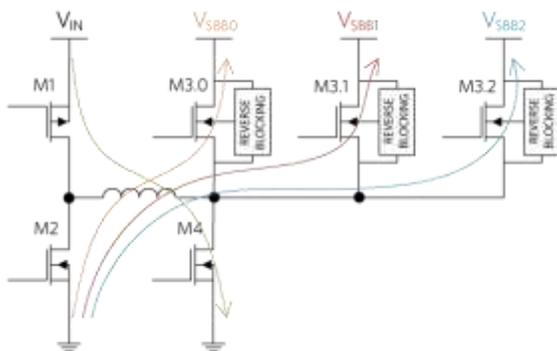
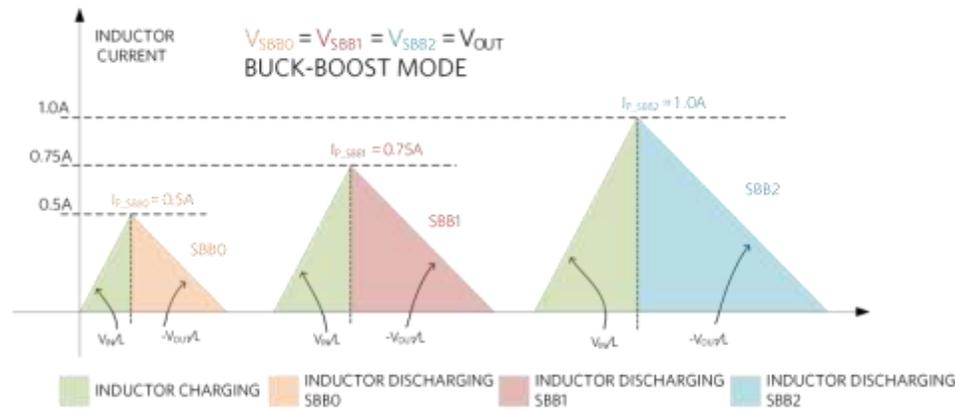

Figure 3. Typical power flow diagram of hearable devices.
Figure 4. Simplified diagram of SIMO.
**Figure 3** shows the simplified diagram of the SIMO topology. An illustration of the inductor current waveform of the SIMO operation is shown in **Figure 4**. The SIMO adopts discontinuous current-control mode. In the MAX77654 SIMO, it can operate in buck or buck-boost mode to support the wide output range from 0.8V to 5.5V. In buck-boost mode, for example, the inductor starts a cycle by building up current with M1 and M4 "ON" at the rate of  $V_{IN}/L$ . When it reaches the corresponding peak inductor current limit programmed for the output rail being serviced, the current is subsequently delivered to that rail through the M2 and M3.x transistors.
As illustrated in Figure 4, the peak current limit bounds the inductor current ripple. With the same load condition and operation mode (buck/buck-boost mode), a lower peak current limit essentially reduces the amount of energy transferred to the output for each switching cycle of a specific output rail. This leads to an increased switching frequency for the rail and reduces the output voltage ripple.